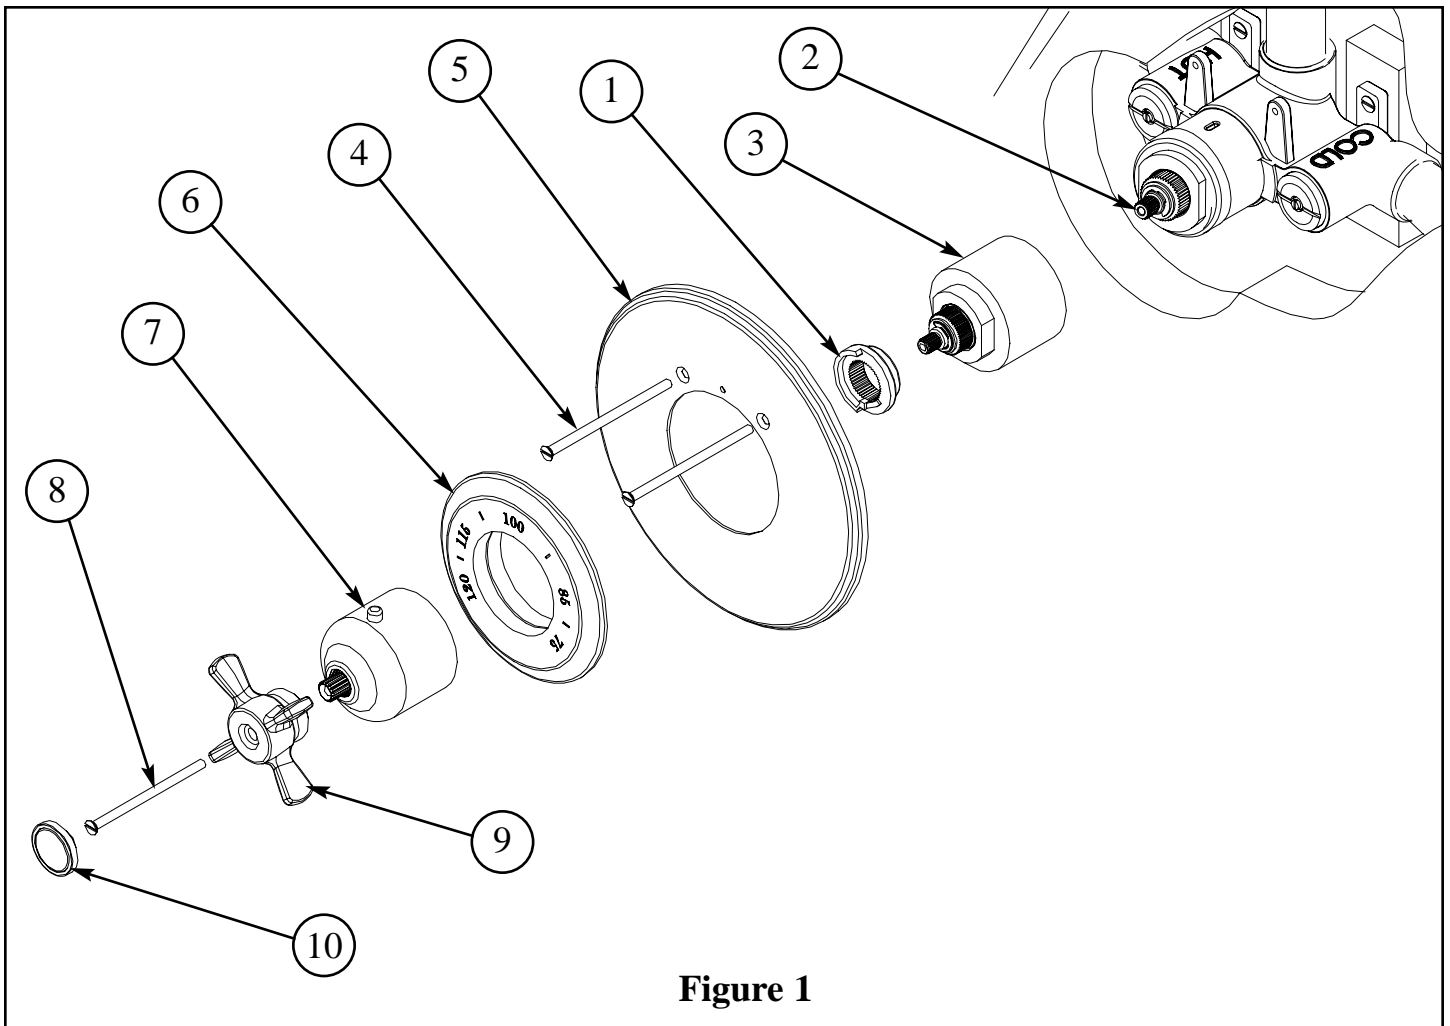

Figure 1
- Remove trim as shown in Figure 1.
- Remove STOP RING (1) from VALVE STEM (2).
- Install extension SLEEVE (3) onto VALVE STEM (2).
- Reinstall STOP RING (1) onto extension SLEEVE (3).
- Using the two 8-32 X 3" SCREWS (4) provided with extension kit, reinstall cover PLATE (5).
- Install nomenclature RING (6) and thermo BONNET (7).
- Using the M4 X .7 X 70 stainless steel SCREW (8) provided with extension kit, re-attach HANDLE (9) and press CAP (10) onto HANDLE (9).